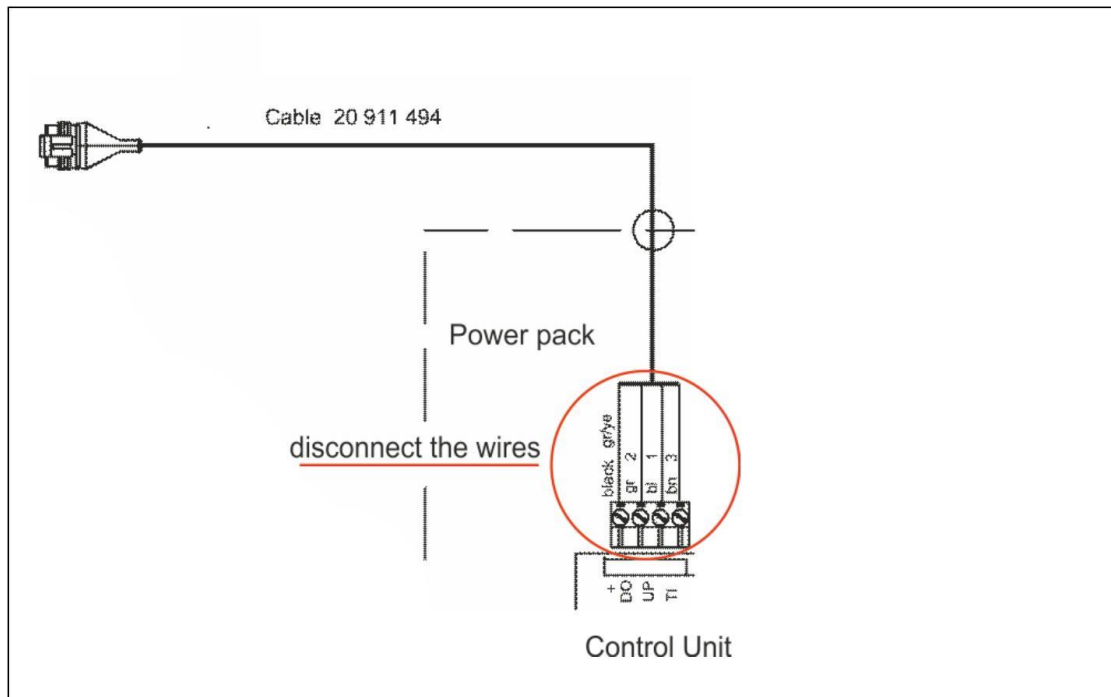

Figure 24
- The control unit is delivered with the wires already connected. Thus, to route the cable, disconnect the wires on the Control Unit (in the Power pack) as seen in Fig. 24.